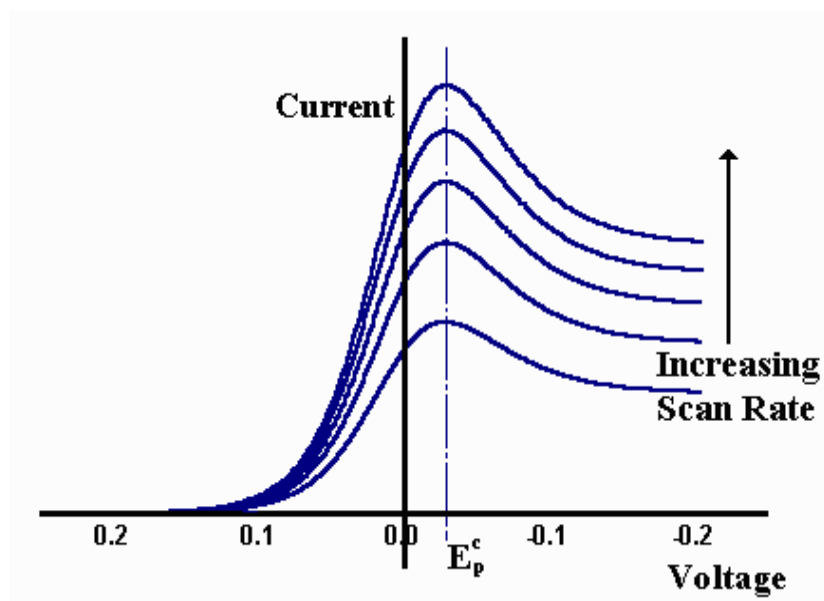

Figure 3
- ❖ The analytical data for a voltammetric experiment comes in the form of a voltammogram (is a graph that can be drawn after an electrochemical experiment) which plots the current produced by the analyte versus the potential of the working electrode. (Fig.3)